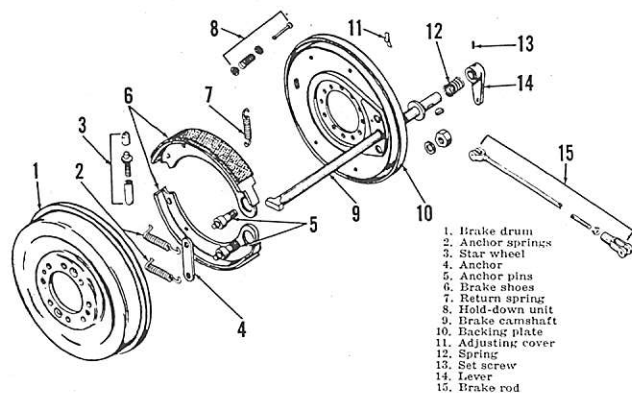

Fig. 251—Exploded view of shoe type individual wheel brakes used on models without planetary final drive.
223. Jack up and block rear portion of tractor. Remove adjusting cover (11—Fig. 251) and, using a screw driver or adjusting tool, turn star wheel (3) by pushing handle of tool toward axle housing until lining contacts brake drum. Back off star wheels an equal amount until drums are free. Equalize the brakes by adjusting the length of rods (15).
225. The brake drum can be removed after removing the rear wheel and the two drum retaining screws. Remove the positioning spring and pin assemblies (8—Fig. 251), anchor springs (2) and brace (4); then lift off shoes (6), adjuster (3) and return spring (7). Assemble by reversing the